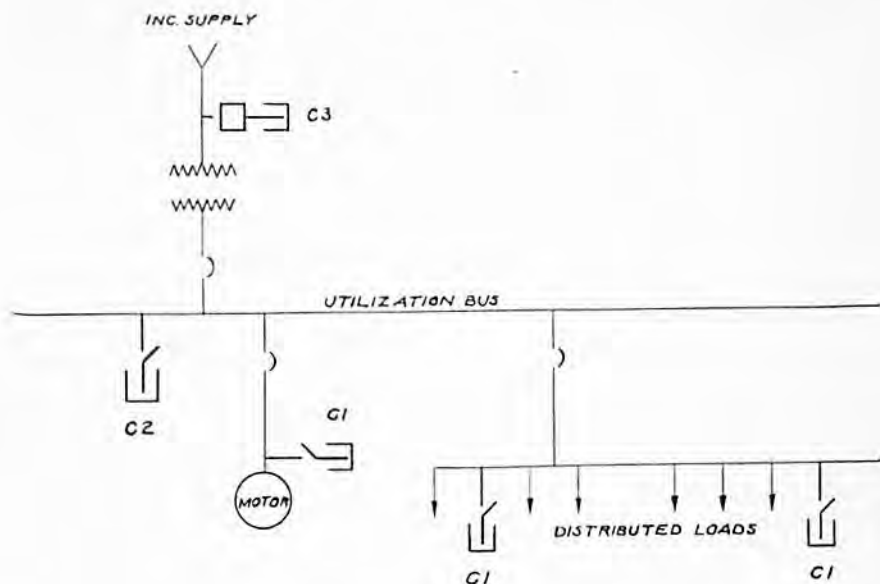

Fig. 1. Location of Capacitors
*Figure 1* shows the possible location of capacitors for correction of wattless current incident to the use of inductive devices such as induction motors. It is obvious that the greater advantages can be obtained from installation of capacitors as near as possible to the load at locations C1 in the illustration.